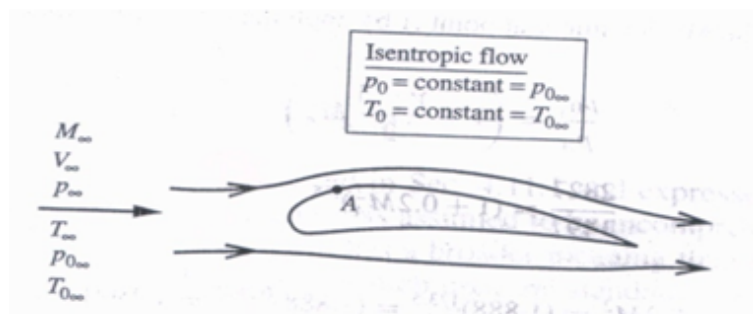

Figure 1
4. Consider the isentropic air flow over the airfoil sketched in the following figure 1. The free stream pressure, velocity and density are 1.013 bar, 804.7 kmph and  $1.23\text{kg}/\text{m}^3$  respectively. At a given point "A" on the airfoil the pressure is 0.7167 bar. What are the Mach number and the velocity at point "A"? [14M]